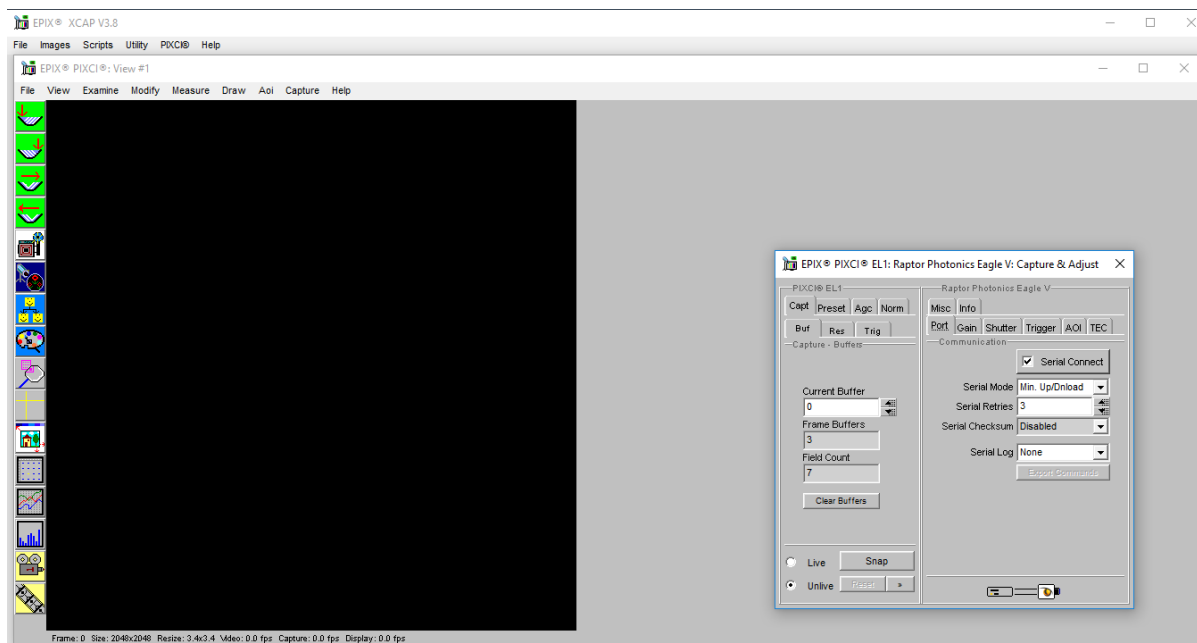

Figure 5: XCAP Camera Control Screen
5. Select Open and the viewing and control screens, Figure 5, will now open. Two windows should open (Figure 5), a viewing window (Left) and a control window (Right).